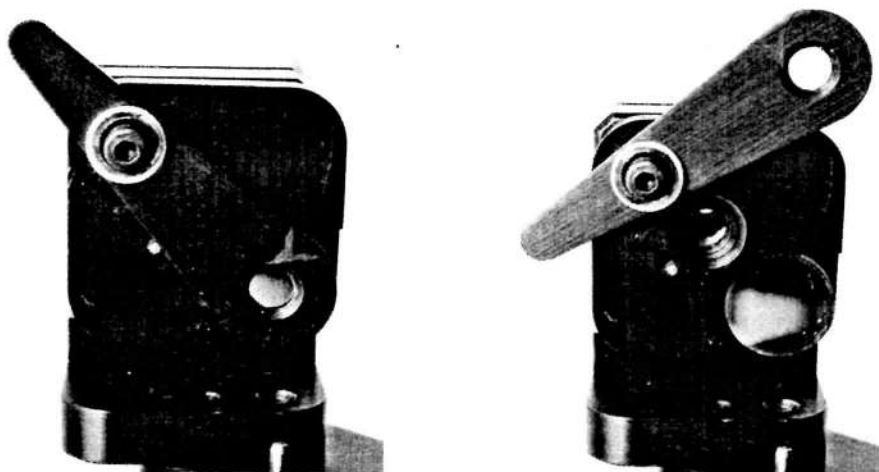

Fig. 7 Beam Aperture - closed for 3mm beam diameter; open for 6mm beam diameter
- Use appropriate optics (e.g. glass plate, beam splitter) to direct a part of the laser beam to be measured to the center of the input mirror (depending on the beam diameter you either close or open beam aperture; see fig. 7); check that the input polarization is horizontal (see 7.2.) and the divergence is small,